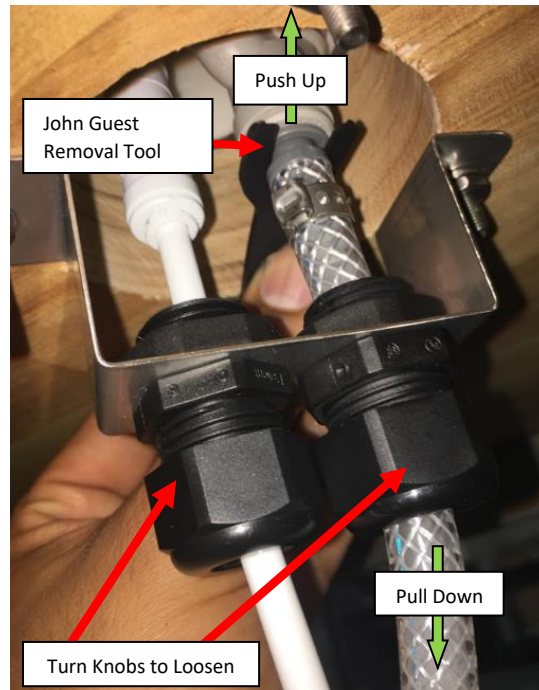

Figure H2: Under-Counter Bracket shown.
- 2.1.1. Loosen the cord grips by twisting the Cord Grip Knobs counterclockwise. **See Figure H2.**
- 2.1.2. Remove the locking clips holding the connections made from the Insulated Bundle. **See Figure H2.**
- 2.1.3. Push on the collet on the fitting and pull the tubes downwards on both joints. **See Figure H2.**